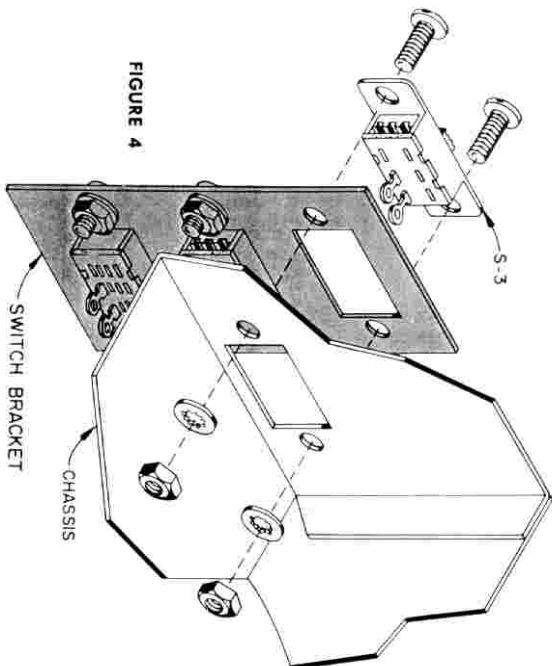

FIGURE 4
- 7 S-3, the remaining white-button slide switch. Hardware used to mount S-3 will also be used to attach the switch bracket to the chassis. Position S-3 on the switch bracket so the end without a terminal is placed, as shown in Figure 4. Insert two 4-40 screws through S-3, through the switch bracket and through the chassis. Fasten with two lock-washers and nuts.